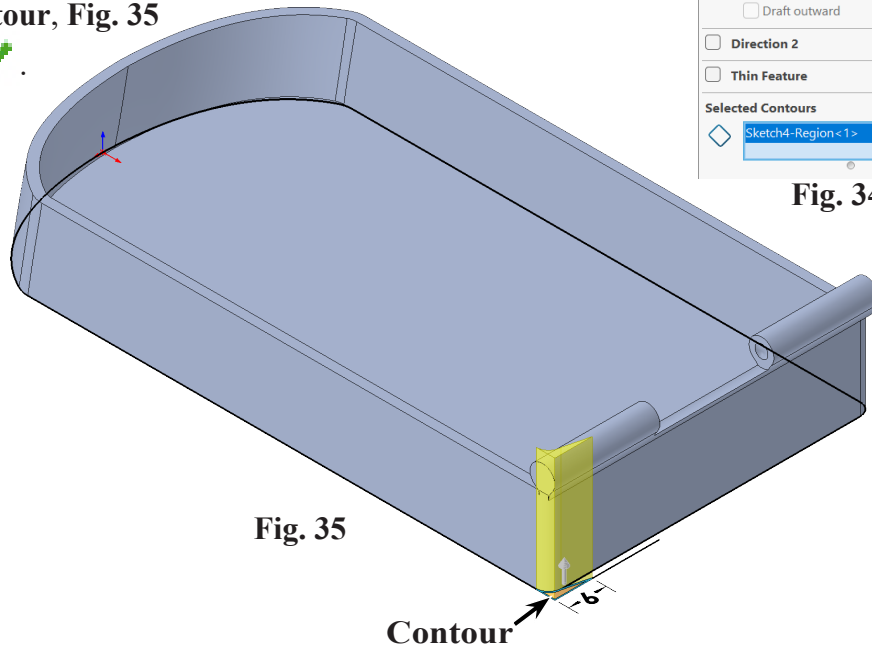

Fig. 35
Step 10. Rotate view to rear, **Fig. 35**. To rotate view, click **Iso-metric**  on the Standard Views toolbar (Ctrl-7), then in bottom left corner of graphics area **Shift click** the **Y**  axis of the Reference Triad  one time.
click **contour**, **Fig. 35**